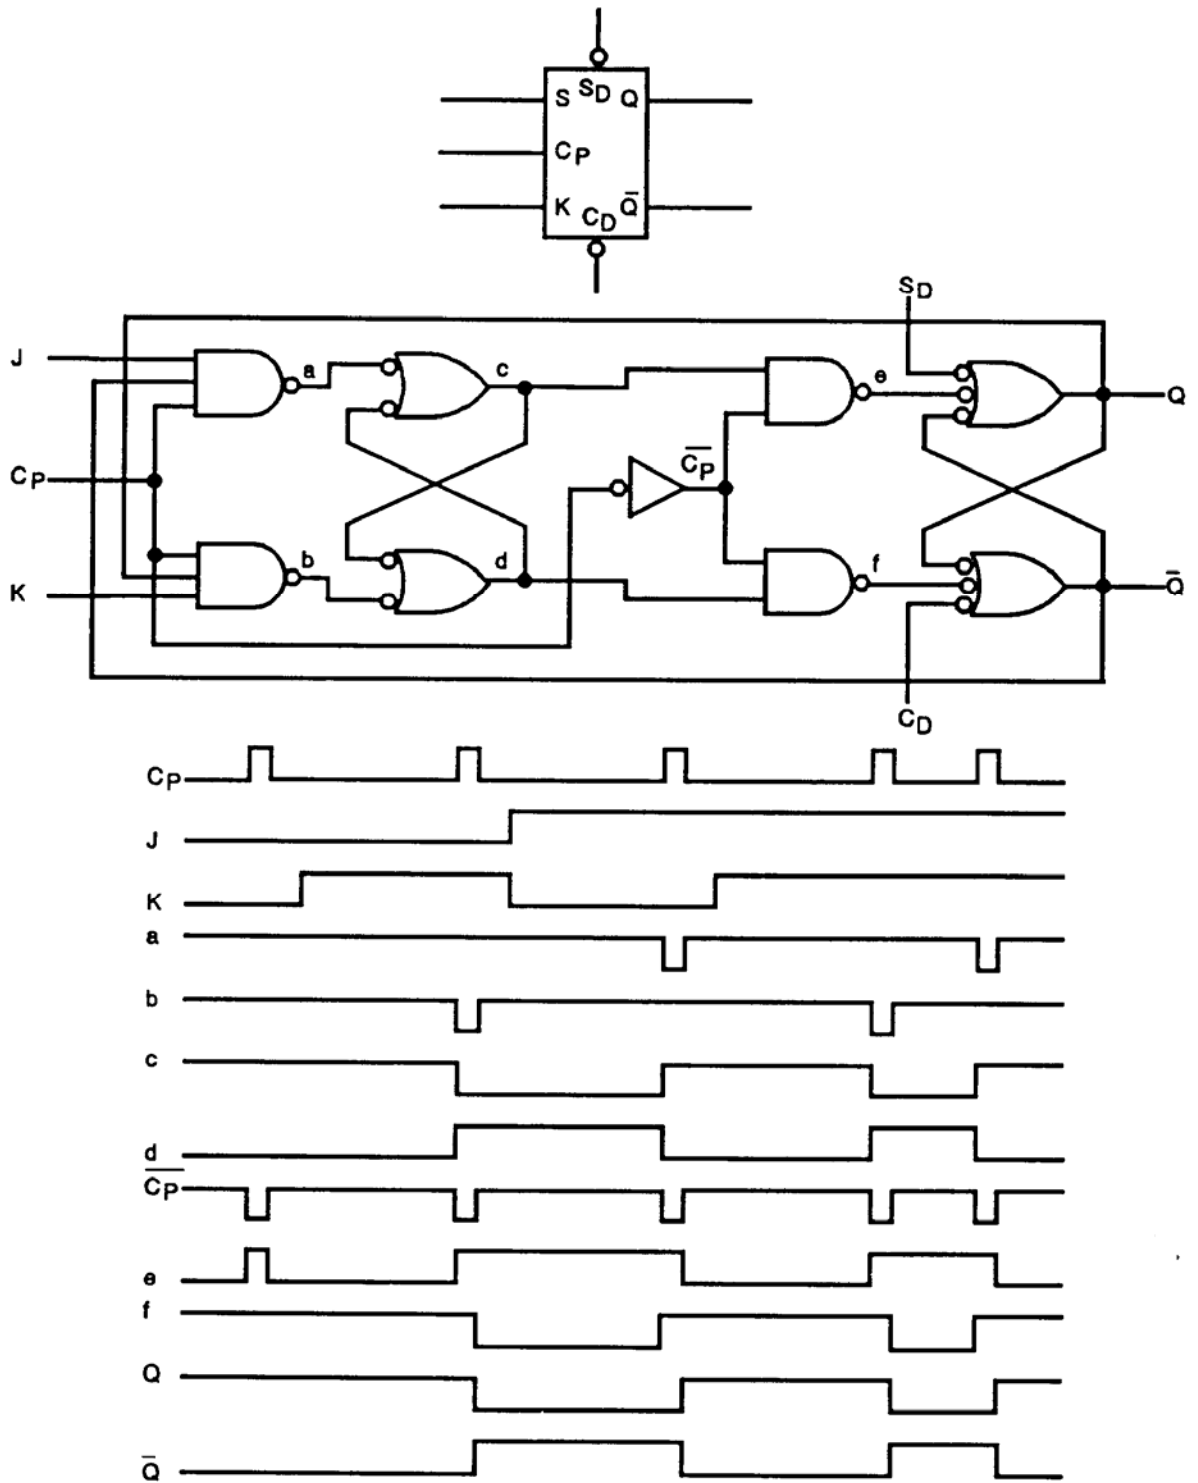

Figure Q-32. J-K Flip-Flop
(1) The new designations for the inputs were chosen so that the J-K function can be differentiated from the R-S functions. The J input can be likened to the S input and the K to the R input.
(2) Activation of the J and K inputs simultaneously will cause the output to change state when the FF is clocked, just like the T FF. The indeterminate state of the R-S FF is not present in the J-K FF because of feedback. Table Q-19 shows the truth table for the J-K FF and Figure Q-32 shows the gating circuitry.